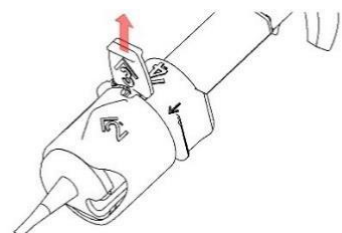

Fig. 2b
6. Remove the red stopper indicated with '3' by pulling and discard it (Fig. 2b).